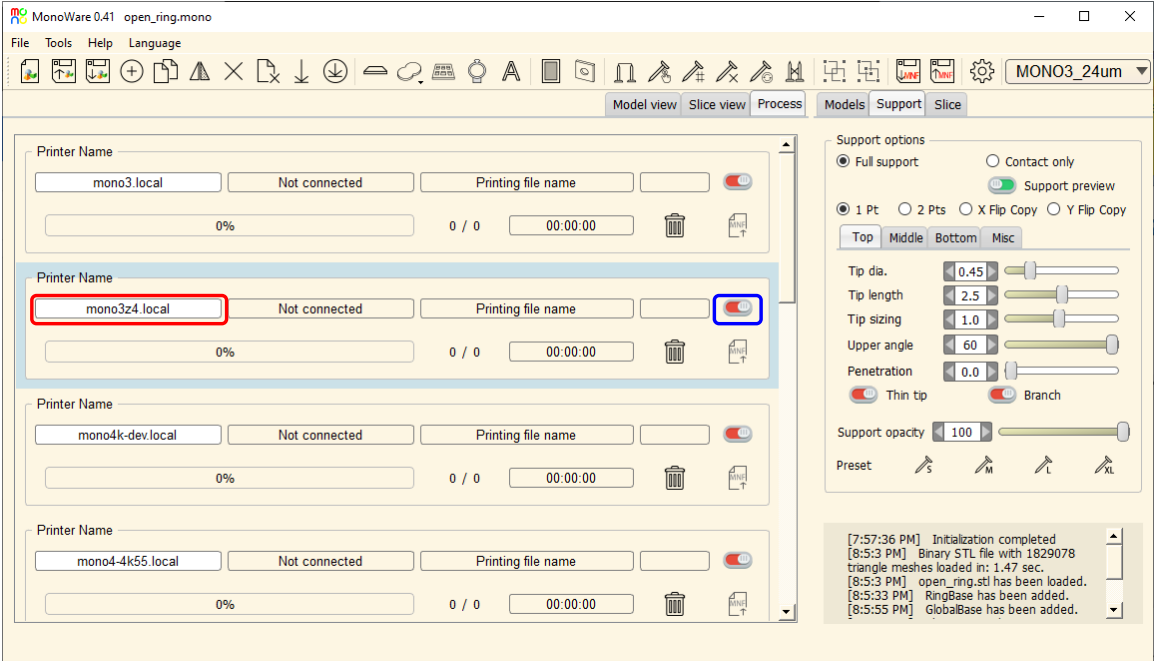

Fig. 2
- Then connect the printer using the button (marked as blue box in Fig. 2)